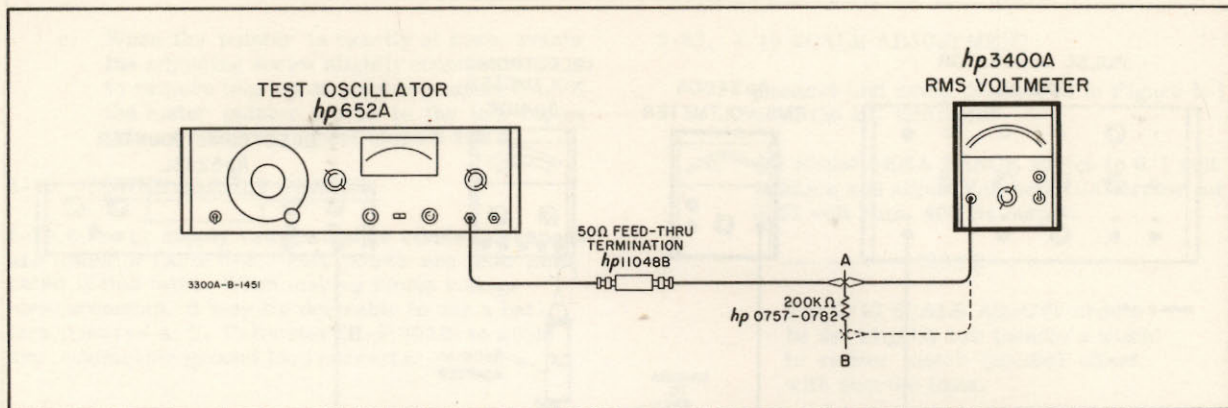

Figure 5-3. Input Impedance Test Setup
- a. Connect the Test Oscillator, 50 ohm feedthru and -hp- Model 3400A to position A in Figure 5-3.
- d. Connect Model 3400A to position B in Figure 5-3. The 3400A meter reading should change less than 0.02 volts (2 minor divisions). This corresponds to an input impedance of 10 megohms.
- a. Connect Test Oscillator, 50 ohm feedthru and Model 3400A to position B in Figure 5-3. Insert the resistor lead directly into the BNC connector on the 3400A as an adapter adds capacitances to the measurement.